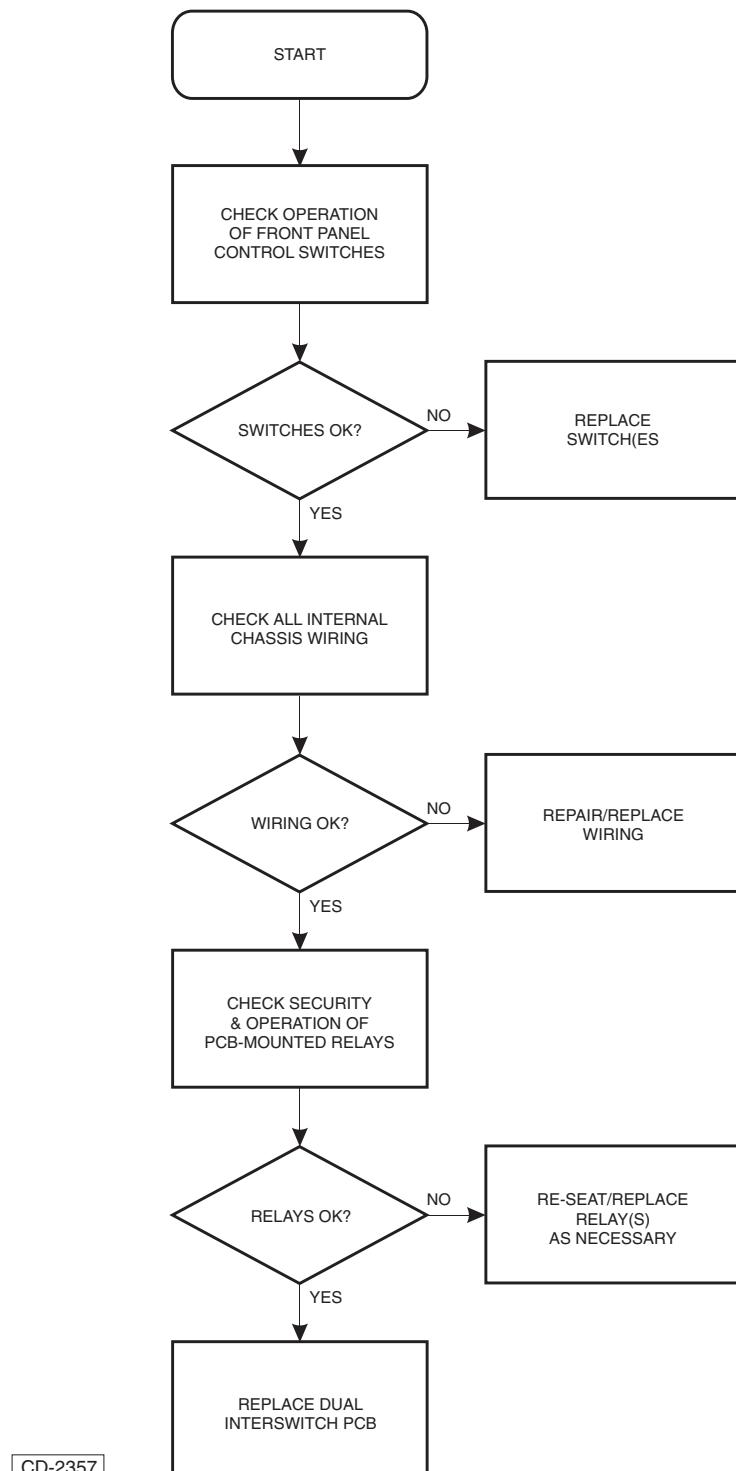

Figure 4b – Interswitch Unit - Fault Finding Algorithm
- 42 A diagnostic algorithm is given in Figure 4b, to provide the operator/technician with a step-by-step guide through the fault finding procedure. The algorithm is intended for identification of faults to LRM level (e.g. a faulty PCB or cable/connector assembly).